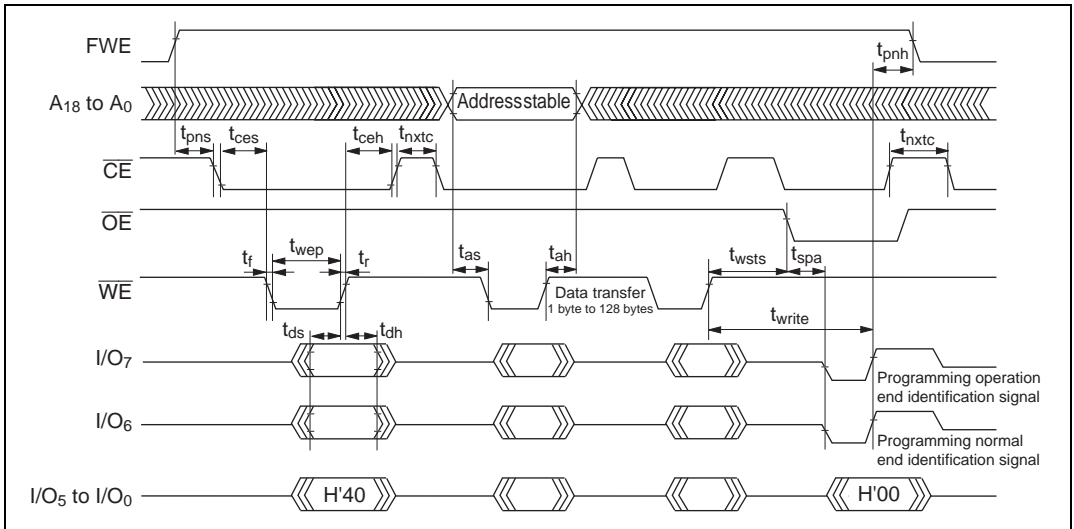

Figure 17.26 Auto-Program Mode Timing Waveforms
- Memory address transfer is executed in the second cycle (figure 17.26). Do not perform transfer later than the second cycle.